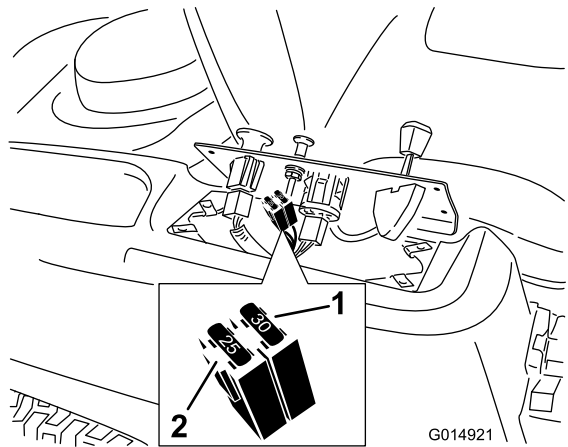

Figure 46
2. Lift the control pane up to access the main wire harness and fuse block (Figure 46).
3. To replace a fuse, pull out on the fuse to remove it (Figure 46).